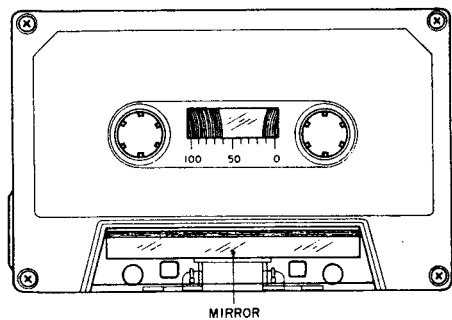

Fig. 14
- a) When using an ordinary cassette, the tape guides and heads, etc. are not visible. As shown in Fig. 14 use a cassette tape from which part of the cassette case has been cut out and a mirror installed for easy visibility of the head area when making tape guide height adjustment.
4. When a mirror installed cassette test tape as shown in Fig. 14 is required, it can be ordered from AKAI Electric Co.